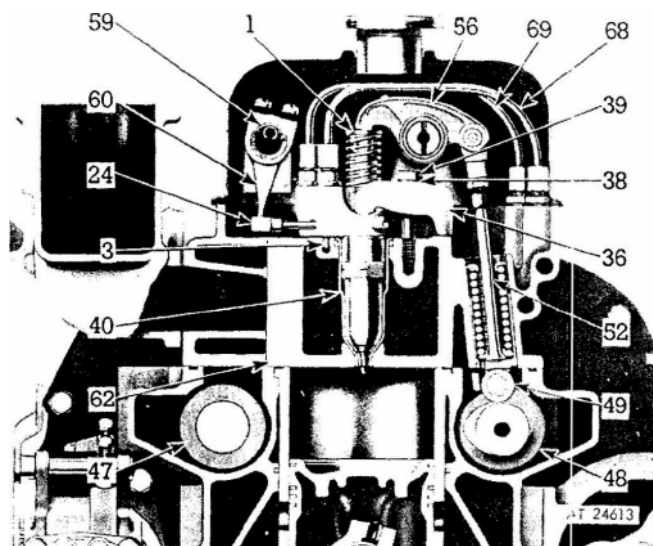

Figure 5. Fuel injector mounting.
motion of the injector rocker arm is transmitted to the plunger by the follower which beats against the follower spring, (fig. 5). In addition to the reciprocating motion, the plunger can be rotated, during operation, around its axis by the gear which meshes with the rack. For metering the fuel, an upper helix and a lower helix are machined in the lower part of the plunger. The relation of the helices to the two ports changes with the rotation of the plunger. As the plunger moves downward, under pressure of the injector rocker arm, a portion of that fuel trapped under the plunger is displaced into the supply chamber through the lower port until the port is closed off by the lower end of the plunger. A portion of the fuel trapped below the plunger is then forced up through a central passage in the plunger into the recess and into the supply chamber through the upper port until that port is closed off by the upper helix of the plunger. With the upper and lower ports both closed off, the remaining fuel under the plunger is subjected to increased pressure by the continued downward movement of the plunger. When sufficient pressure is built up, it opens the flat, non-return, check valve. The fuel in the check valve cage and spring cage passages, tip passages and tip fuel cavity is compressed until the pressure force acting upward on the needle valve is sufficient to open the valve against the downward
2. Remove the fuel pipes from both the injector and the fuel connectors. (fig. 5).